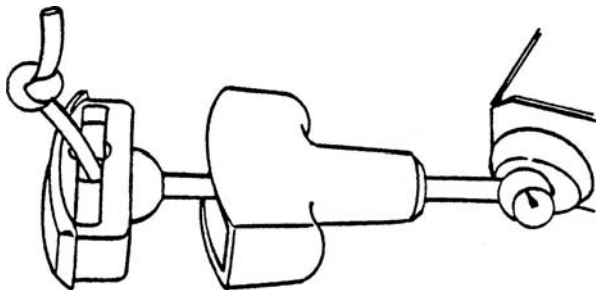

FIG. 5-5. Knot the rope as shown at the handle. Briggs & Stratton Corp.
5. Tie a temporary knot in the rope or lock the sheave with Vise-Grip pliers (Fig. 5-5).